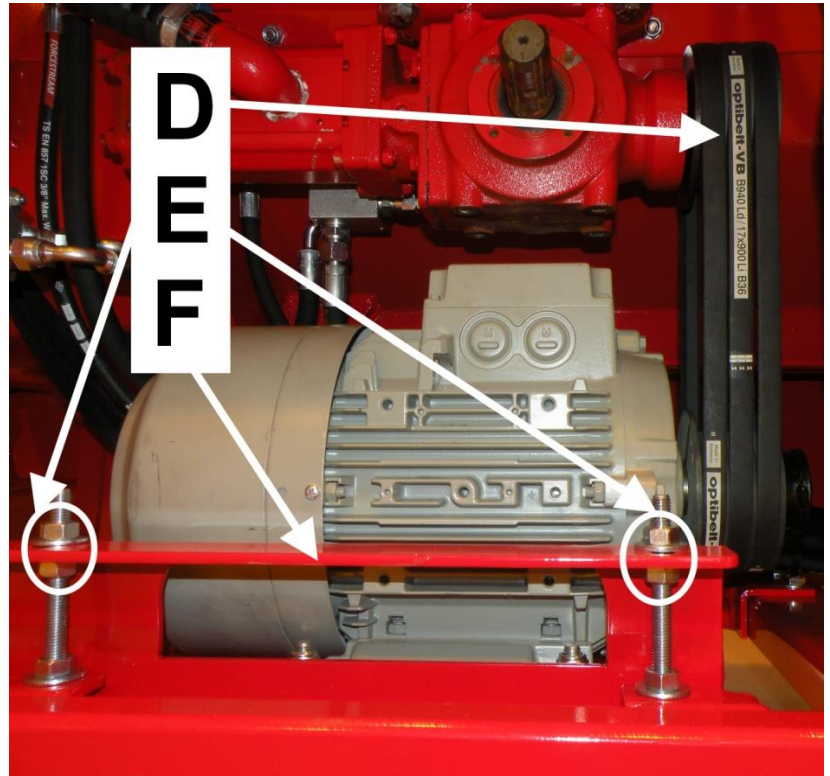

Figure 32.
5. Grease nipples of the joint of the cutting unit (2 pcs) in Figure 32.